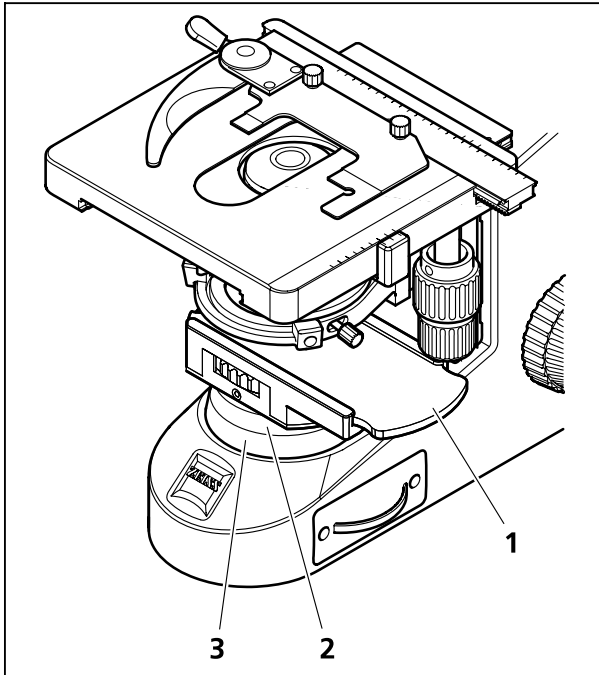

Fig. 11 Mounting the slider onto the luminous-field diaphragm
- Unscrew the cover cap (Fig. 11/2) from the luminous-field diaphragm (Fig. 11/3).
- Turn the slider (Fig. 11/1) to its mounting position, put it on the luminous-field diaphragm (Fig. 11/3) and fasten it slightly, for the time being, by means of the cover cap (Fig. 11/2).
- Turn the slider (Fig. 11/1) to the desired position (for right-hand or left-hand operation) and fix it in this position by tightening the cover cap.
- Turn the cover cap of the luminous-field diaphragm (Fig. 11/2) to loosen it and remove it together with the slider (Fig. 11/1).